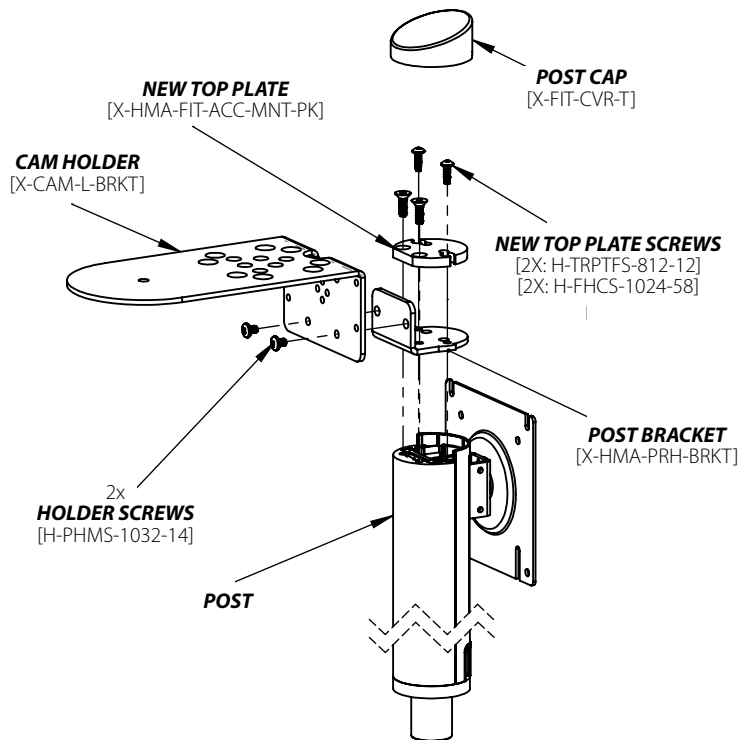

Figure 2
4. Now put the *POST CAP* back on the *NEW TOP PLATE* as shown in **Figure 2**.